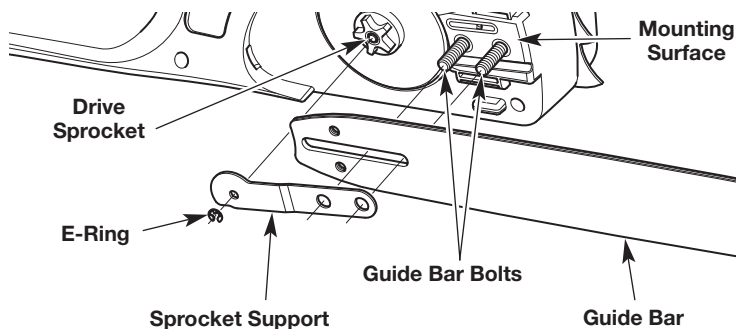

Fig. 28
5. Carefully use a small flat-head screwdriver to remove the E-ring from the drive sprocket (Fig. 28).
6. Remove the sprocket support from the drive sprocket (Fig. 28).
7. Remove the guide bar from the guide bar bolts (Fig. 28).
1. Align the slot in the guide bar with the guide bar bolts (Fig. 28). Slide the guide bar completely onto the guide bar bolts (Fig. 28). Make sure the guide bar is flush against the mounting surface.
2. Place the sprocket support onto the drive sprocket (Fig. 28).
3. Carefully install the E-ring onto the drive sprocket (Fig. 28).